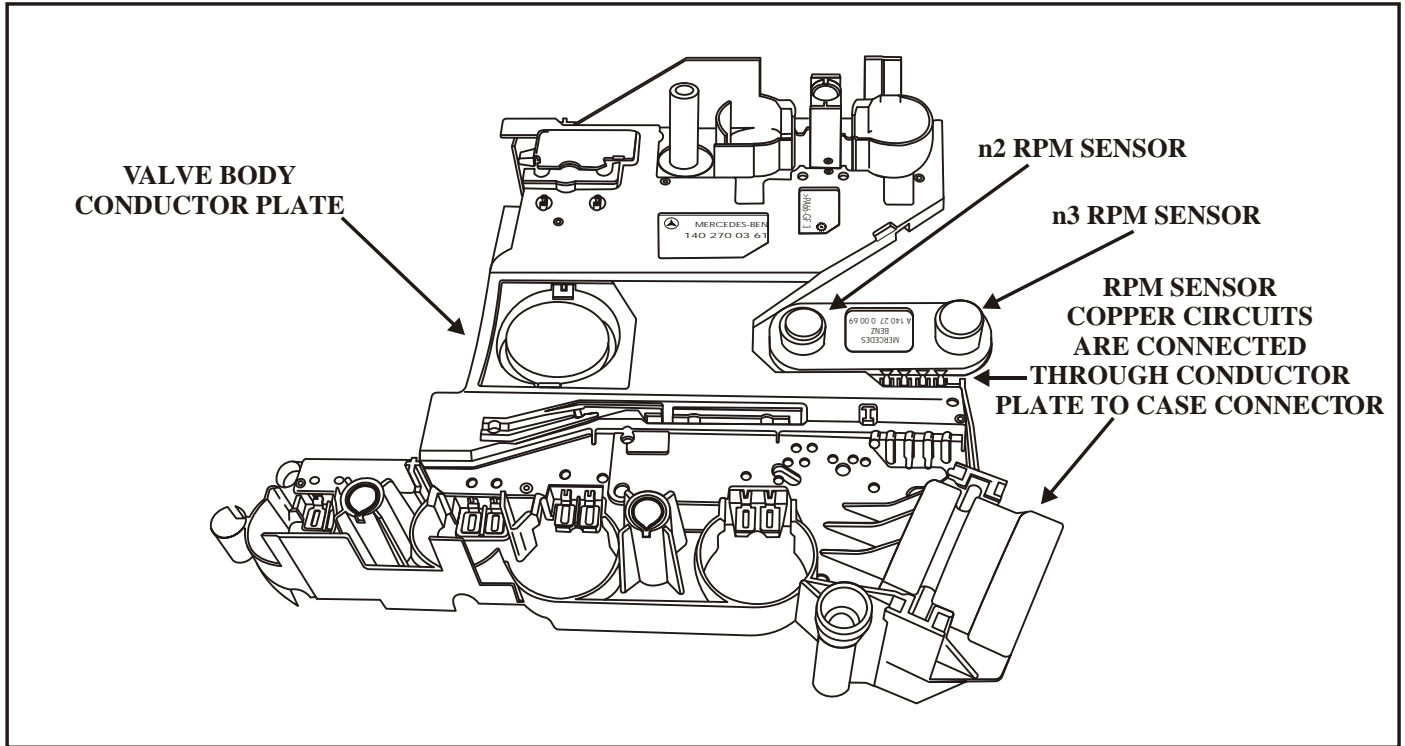
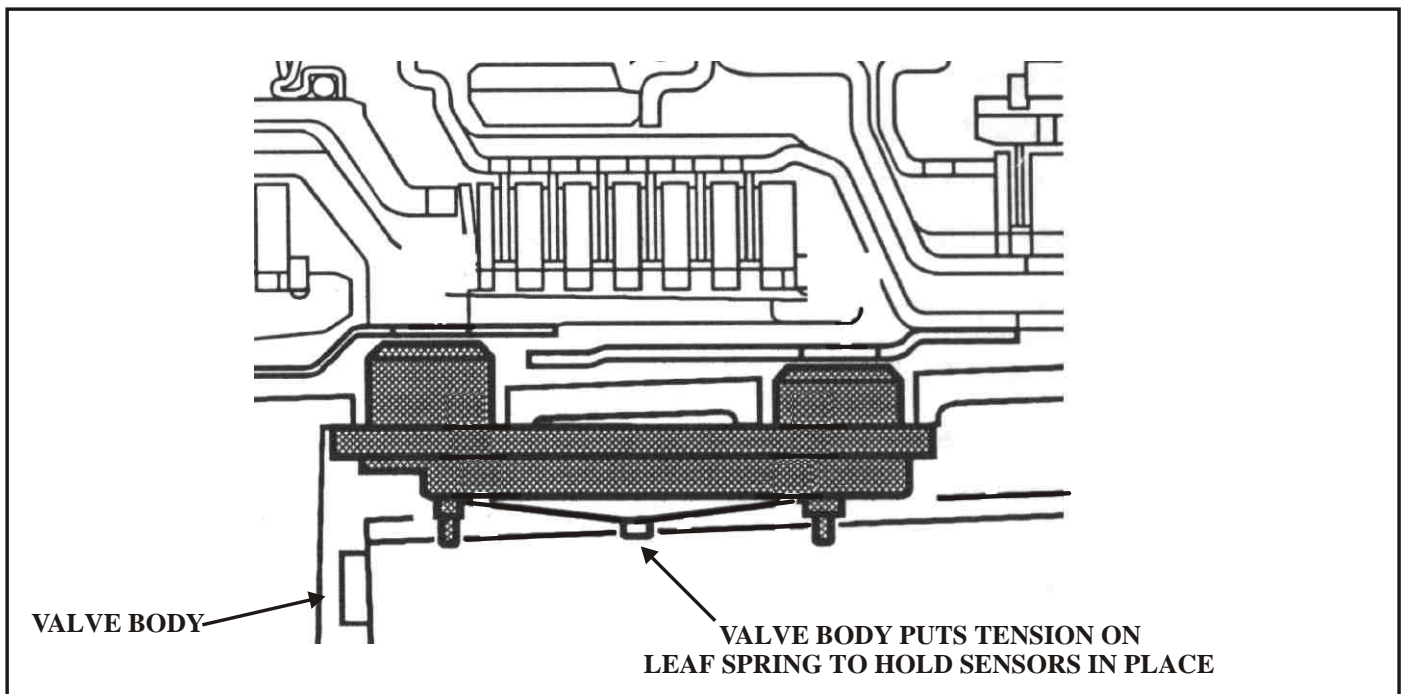
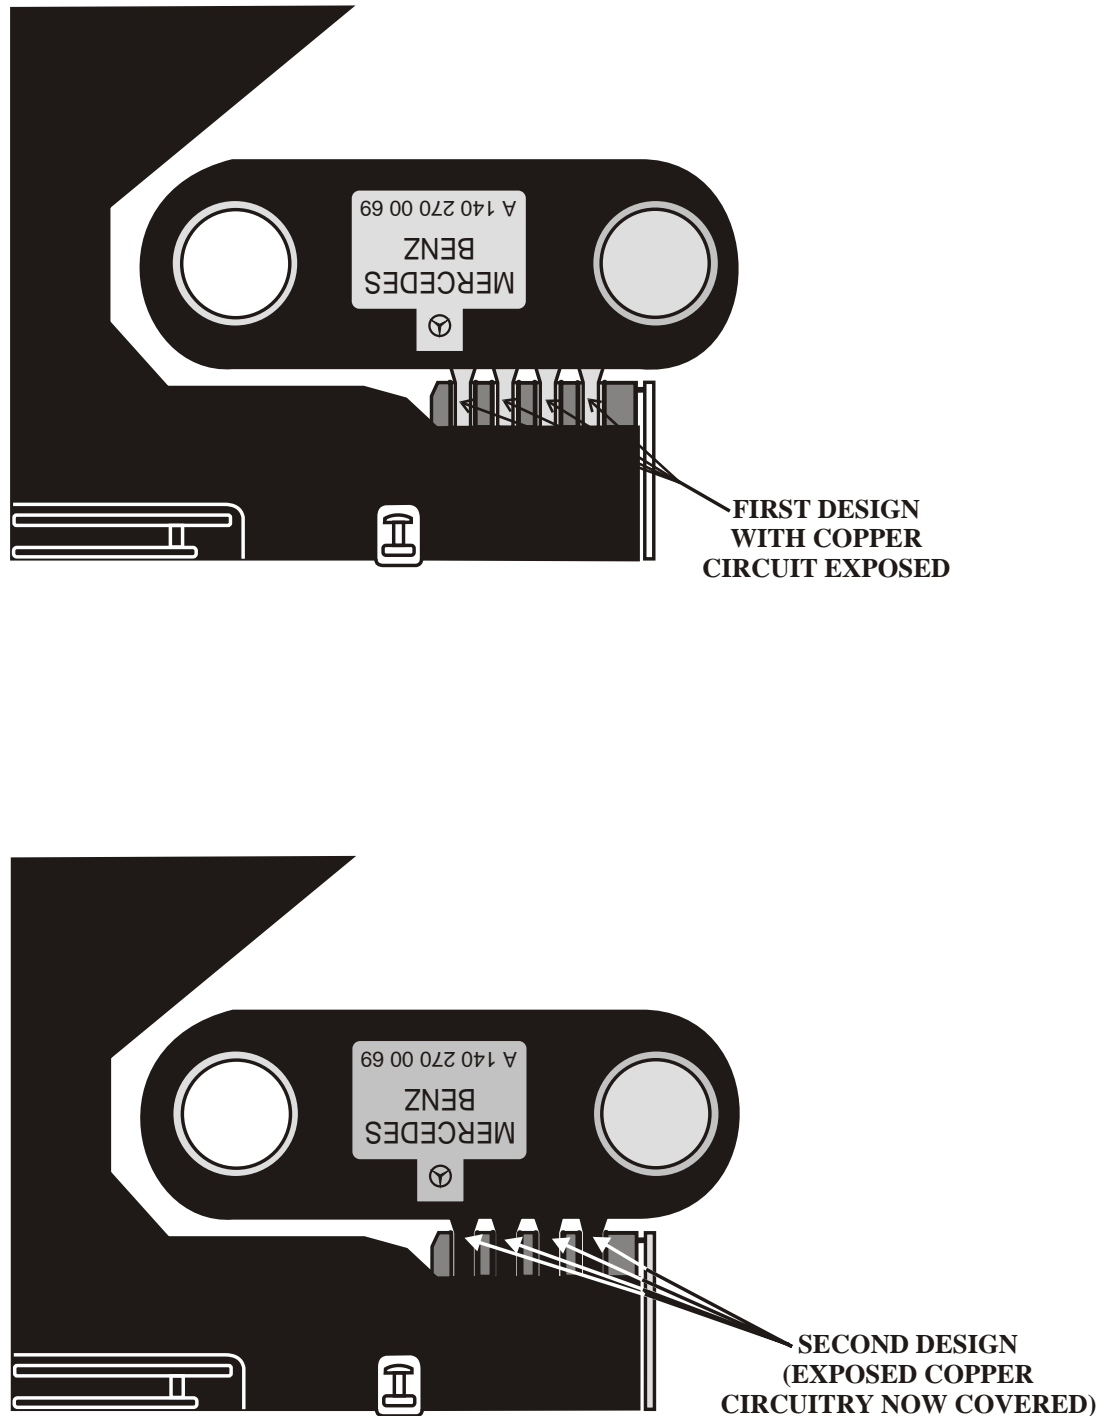

Figure 1
Figure 2
Figure 3
1. The valve body conductor plate is similar to, but a much larger version of, that which is seen on Saturn vehicles. It is a circuit board encased in black plastic which snaps down onto the solenoids mounted in the valve body. This conductor plate can be removed and replaced separately as seen in Figure 1. With the valve body in place, tension is placed on a leaf spring which puts pressure on the RPM Sensors to keep them in place as seen in Figure 2.
2. The RPM Sensors are magnetic and can attract foreign material which can interfere with the sensor signals, the source of the contamination will have to be corrected to eliminate this problem. The previous design conductor board had open circuitry which could be affected by normal debris. The current design conductor plate has this circuitry covered by plastic to avoid normal debris from interfering with the signals as shown in Figure 3.
Some models come equipped with an upshift delay vacuum actuator which can have one or two vacuum hose connections (Refer to Figure 1) that is designed to control the throttle cable in a way that creates late shifts when the vehicle is cold in order to heat up the catalytic converter faster. (Refer to Figure 2) It also creates late shifts in vehicles equipped with a Mode Selector Switch in order to create a performance shift pattern when the mode switch is in the "S" MODE. (See Figure 3) In the "E" MODE the upshift delay device is used for rapid catalytic converter heating only, while providing a calm shift pattern for normal driving.